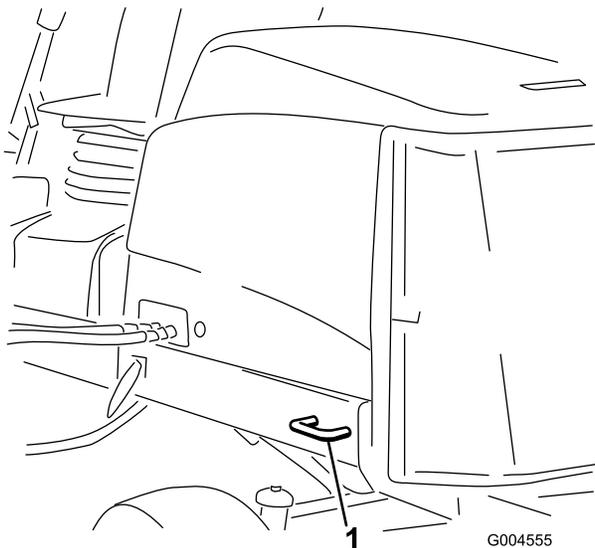

Figure 38
- Rear—each side of the machine on the rear frame (Figure 38).